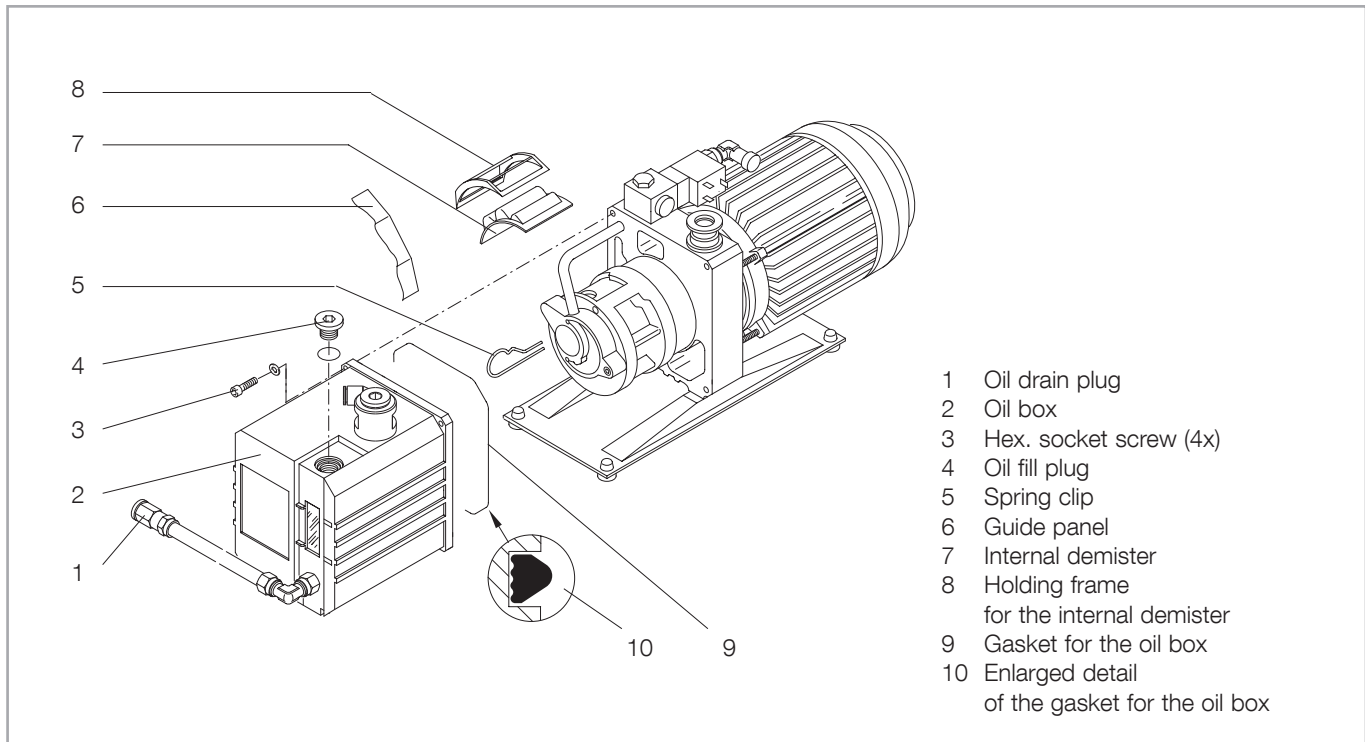

Fig. 7 Removing and inserting the internal demister
Make sure to fit the gasket for the oil box (7/9) with the flat side in the groove, see item 10 in Fig. 7.
Especially note the position of the oil ejection hole (see arrow in Fig. 7) in the end plate A. The hole must always lead downward.